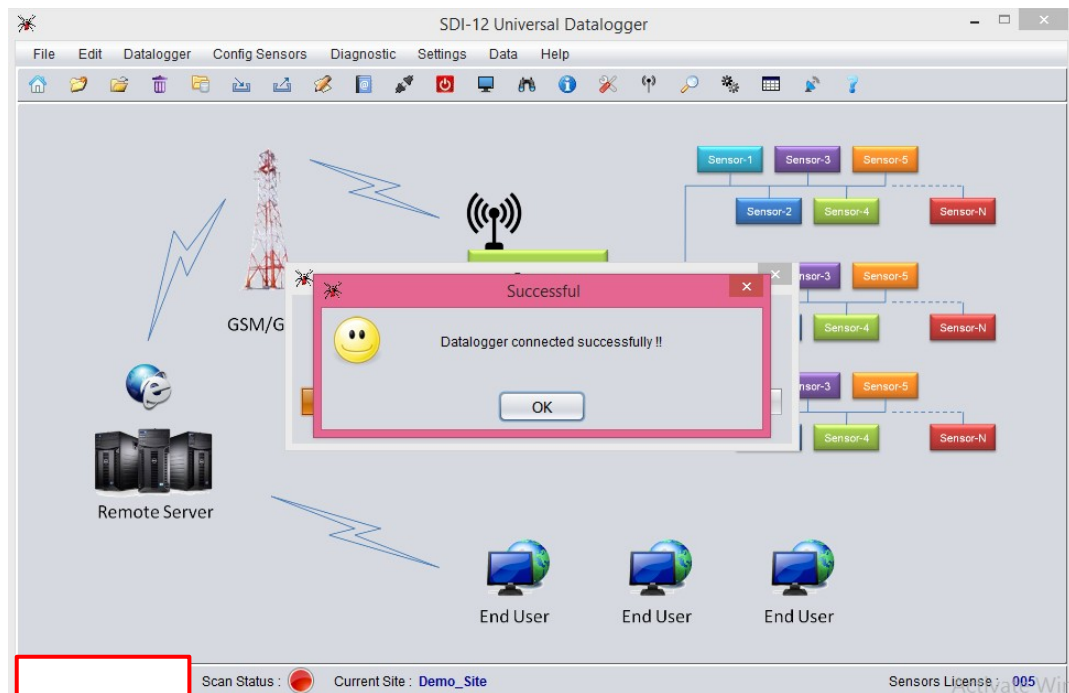

Figure 21 Datalogger connection status on EDSL-30UNI Configuration Manger Software
- 5 Confirmation window showing Datalogger connection status will appear. Then click “OK” button. This will change the “Connection Status” from Red to Green (displayed at the bottom left in figure 21 below).